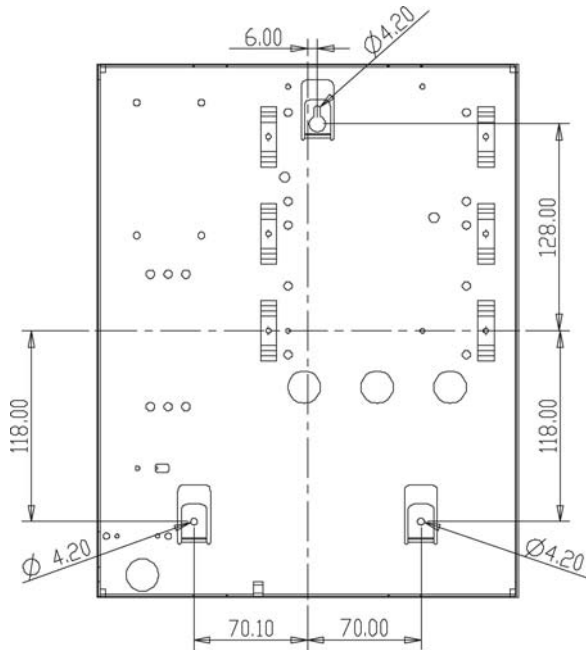

Figure 28: ME-01 Mounting Template
1. Using the holes dimensions and locations shown in Figure 28, drill holes in the wall.